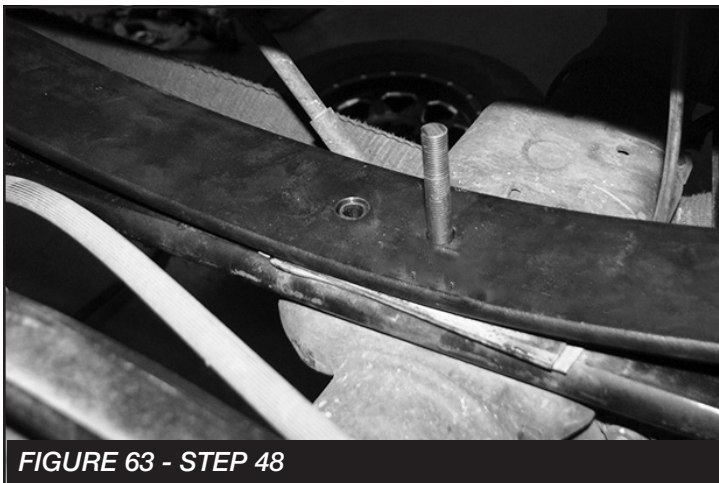

FIGURE 63 - STEP 48
48. Install the provided add a leaf with the new center bolt in a pyramid pattern smallest on the bottom graduating to the longest on top. Align by using the secondary factory pin installed in the spring. The factory flat overload leaf should remain on the bottom of the pack. Clamp the spring and tighten the center bolt as not to leave a gap between the springs. Cut the thread of the bolt smooth with the nut. The nut should be on the top of the leaf spring pack. **SEE FIGURE 63**